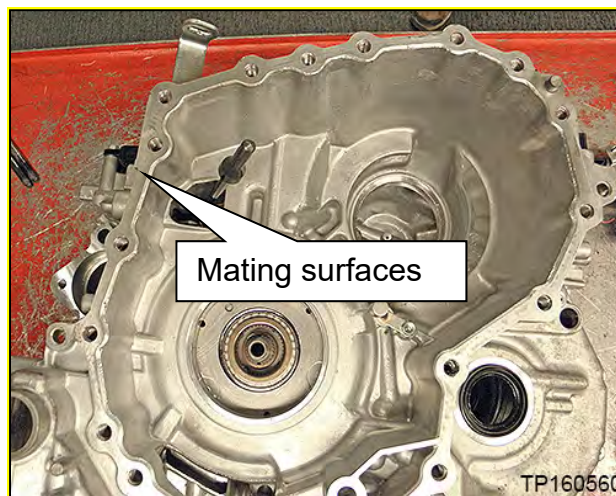

Figure 92
- Re-install all six (6) original bolts into the old sub-assembly.
68. Thoroughly clean the mating surfaces of the CVT case (Figure 92) that the sub-assembly was just separated from (a plastic scraper can be used).